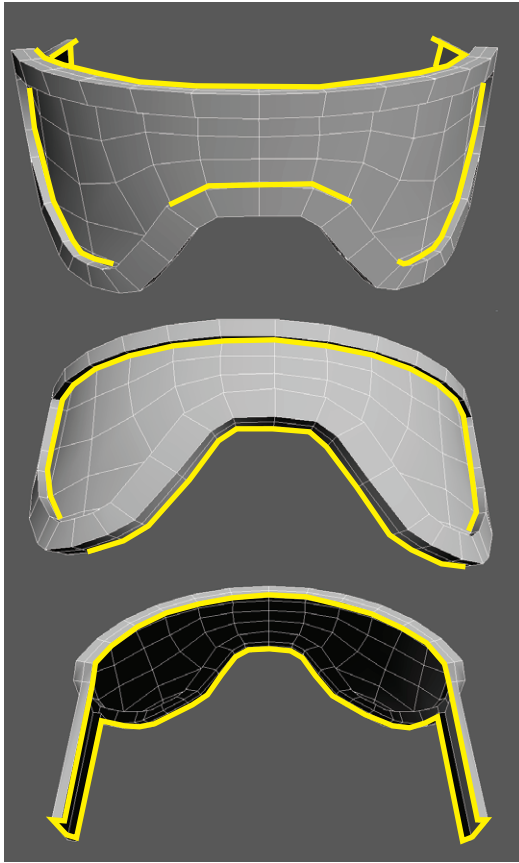

FIGURE 11.17 Guide for the seams on the goggles
10. Repeat steps 4 through 7 on the goggles using Figure 11.17 as your guide for the seams.